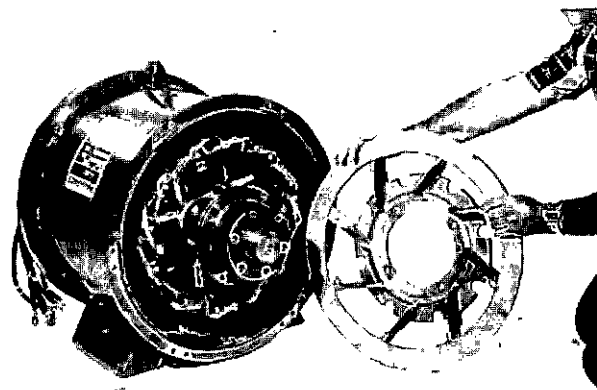
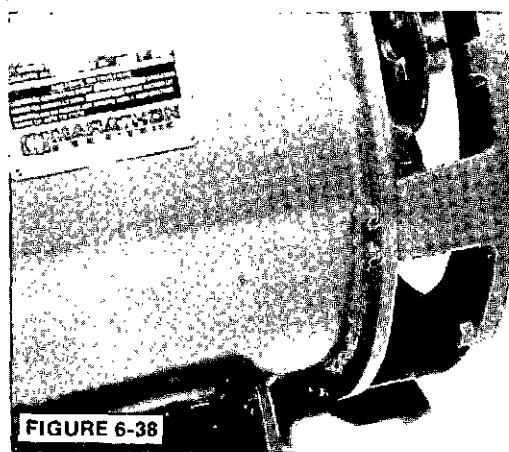

FIGURE 6-36
FIGURE 6-38
3. a. For single bearing generators, slide the SAE adapter over the fan, be sure the locating mark is at the bottom (See Figure 6-36 and 6-37), and secure to the main stator assembly with capscrews. Torque per section 12. (Figure 6-38.) It may be necessary to raise the rotor assembly slightly to allow the mounting of the SAE adapter.